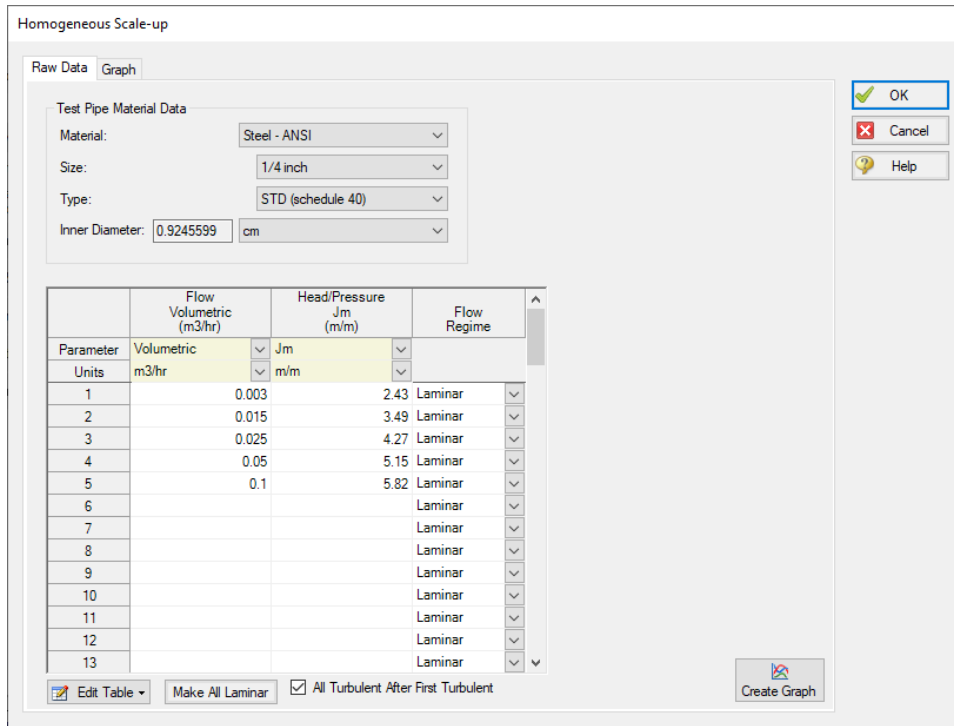

Figure 9: Homogeneous Scale-up window with test data input
8. For the Homogeneous Scale-up scenario, use the test data from the Excel spreadsheet. Make sure to enter the data as Volumetric in m³/hr and Jm in m/m. All 5 data points are laminar flow, as shown in Figure 9.